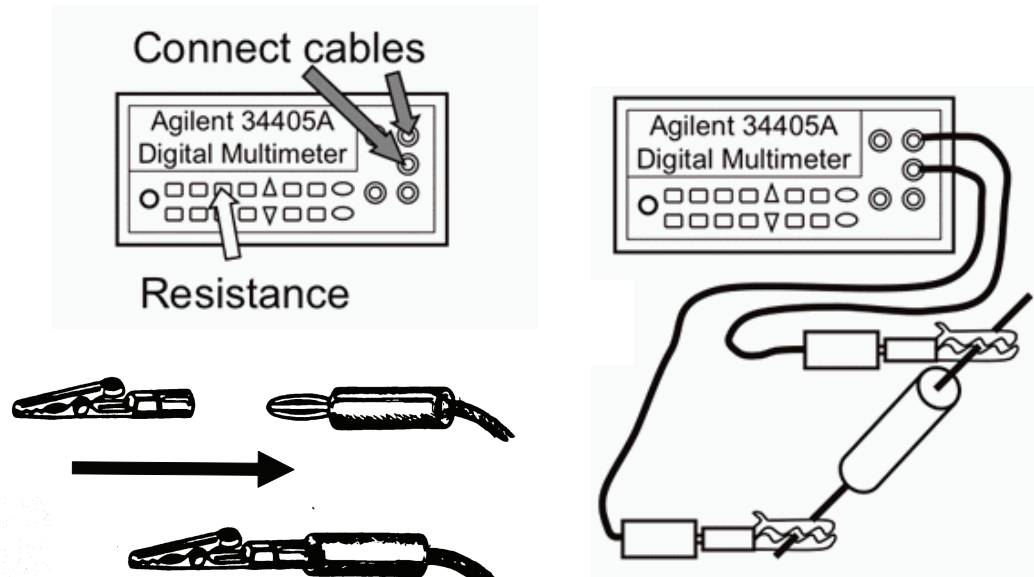

Figure 9: Measurement of resistance using DMM.
- To activate the resistance measurement mode, press the button shown in Figure 9, and connect cables to the same terminals as for the voltage measurements